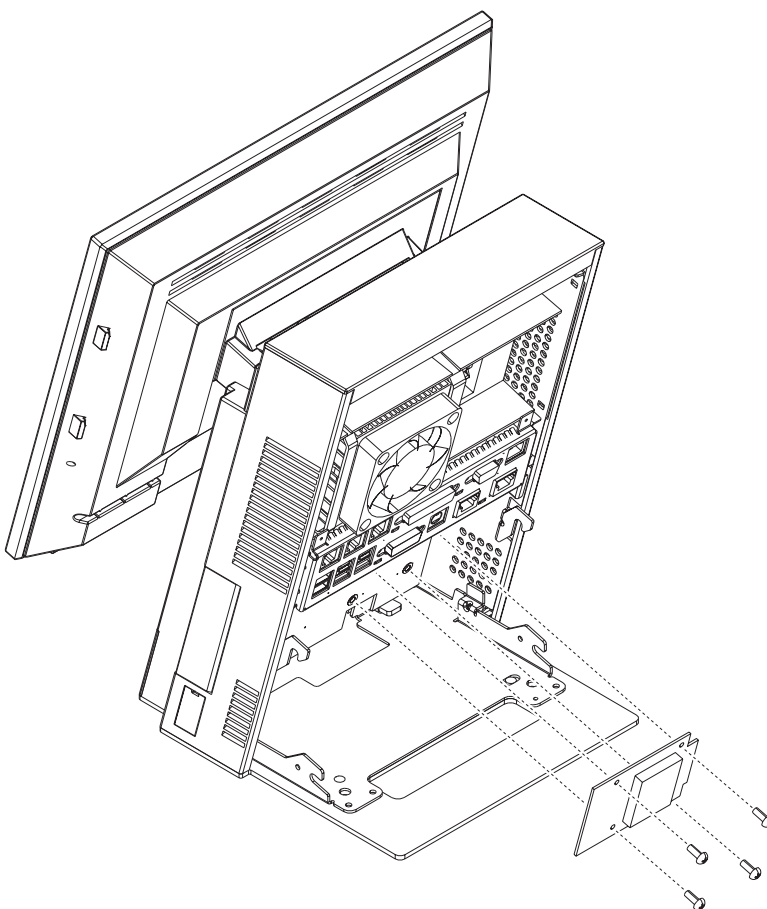

Figure 42. Video card removal
4. Remove the four screws shown in Figure 42 and remove the dual-video adapter.